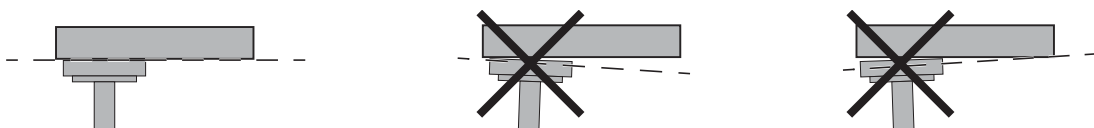

Figure 4. Back view showing correct alignment of Beam on Leg (at left), and incorrect alignment (middle, and right)
3 Make sure the Beam sits flat on the top of the Legs as shown in Figure 4. If necessary, move the Legs in or out.
- 1 Start at the back of the frame (either end) and make sure the back Beam sits flat on top of the Leg as shown in Figure 4.